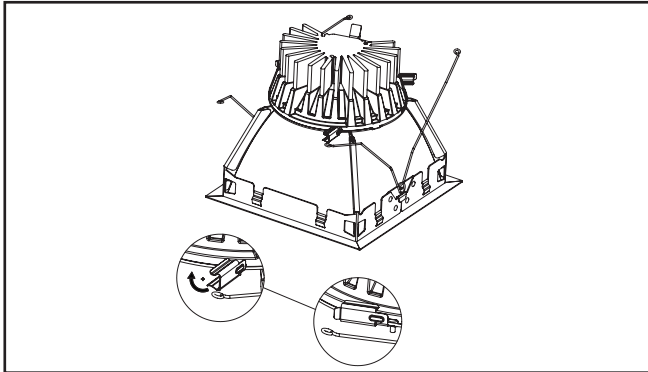

Figure 6
5. Rotate side clips (3) into place to securely attach trim assembly to LED engine (Figure 6.).